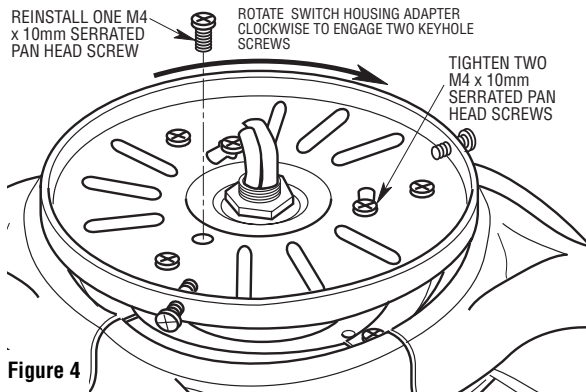

Figure 4
- 7. Turn the bracket switch housing assembly clockwise and tighten both screws (Figure 4). Reinstall the other serrated head screw in the remaining hole in the bracket switch housing assembly.